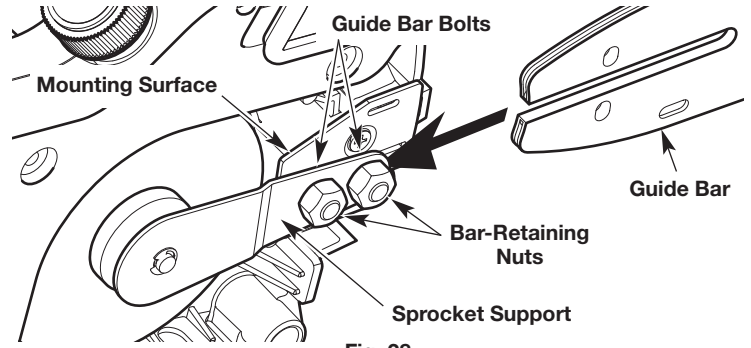

Fig. 28
6. Remove the guide bar from the guide bar bolts (Fig. 28).
2. Align the slot in the guide bar with the guide bar bolts (Fig. 28). Insert the guide bar between the sprocket support and mounting surface (Fig. 28). Slide the guide bar completely onto the guide bar bolts (Fig. 28).